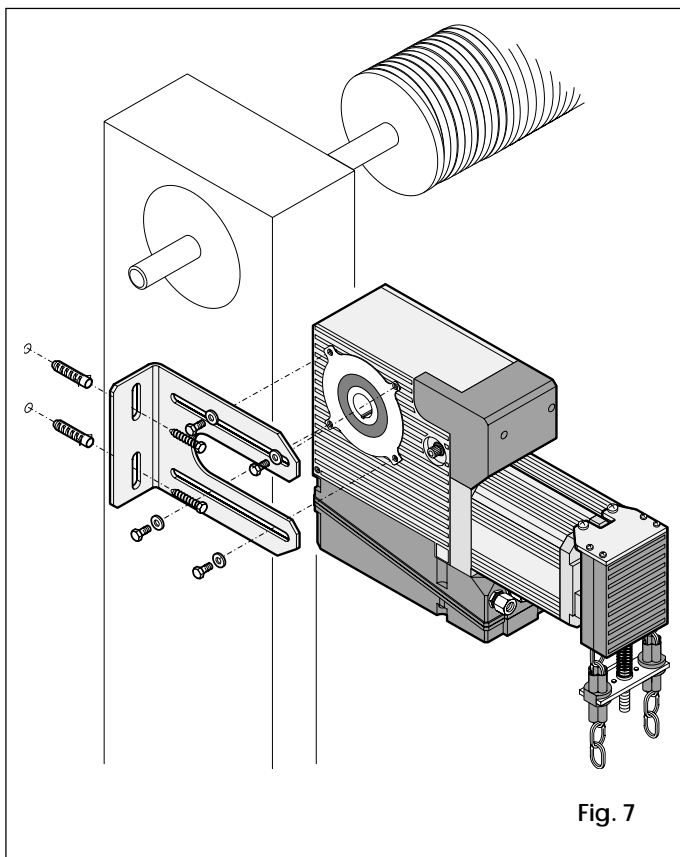

Fig. 7
- Position the operator (see paragraph 5.1) and rest the plate on the support (wall or metal structure) on which you have decided to secure it (see figure 7.).